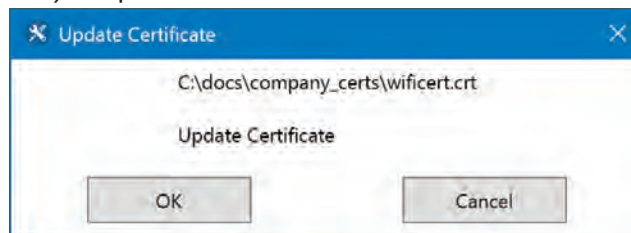

Figure 113: CCM – Update Certificate
- 6 Select the Wi-Fi Enterprise Certificate file, click **Open**, and then select **OK** in the **Update Certificate** dialog box (Figure 113) to upload the certificate onto the instrument.